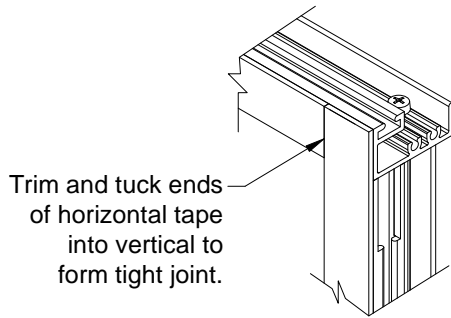

FIGURE 9
- 2.6 Vertical tape is run through at corners. Tape will be tucked into the corner to form a tight joint. SEE FIGURE 9, page 14